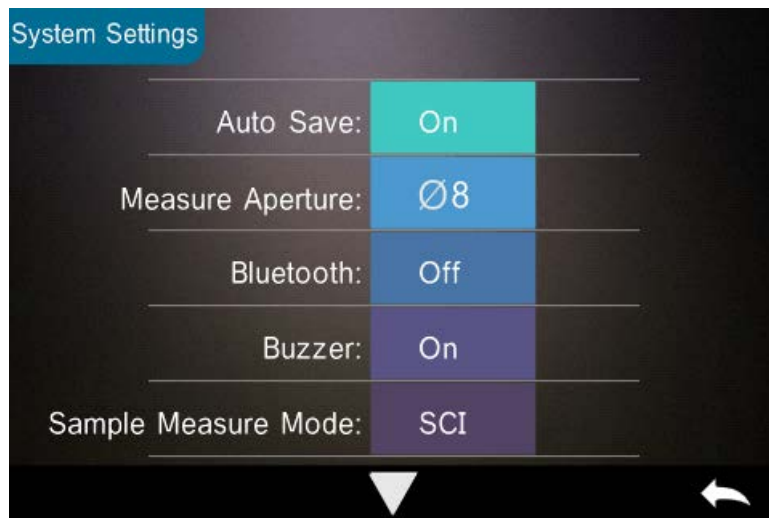

Figure 44 System Settings
In the main menu, click “System Setting” as shown in Figure 44, Figure 45 and Figure 46.
Step 3: Switch the default system measurement aperture to correspond with the actual measurement aperture. As shown in Figure 44, the current measurement aperture is $\Phi 8\text{mm}$. After switching the measurement aperture, you have to re-calibrate the instrument according to part 2.2.